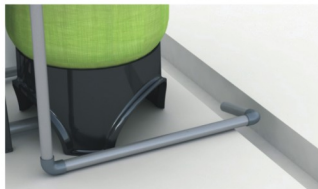

Figure 1-5
- e. Use DN80 (Outer diameter is $\varnothing 90$) UPVC pipeline stick to the drain, drain pipeline should directly to the sewer, the sewer and the drain pipeline should installed as figure 1-5.